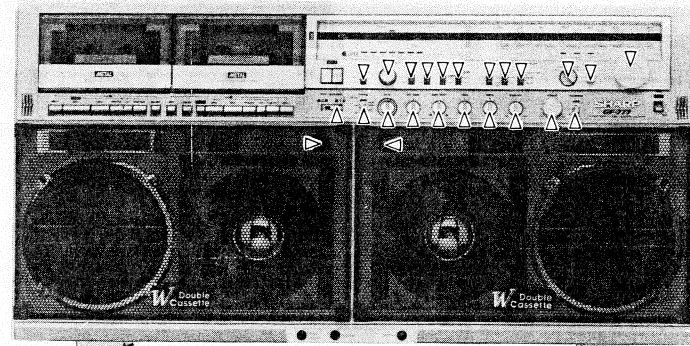

Figure 5-1
1. Remove one tuning control knob, one fine tuning control knob, one volume control knob, two record control knobs, six other control knobs, one deck mode selector knob, one wave band selector knob and other ten selector knobs. Then remove two punching metals and two super woofer sound control knobs. See Fig. 5-1.